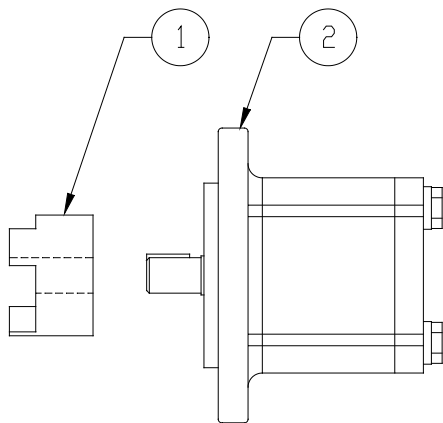

Figure 1
2. Figures 1 through 4 included in these instructions show the assembly of all the parts that comprise the pump installation to the engine block. Each item number on the following parts list can be matched with the item numbers shown on these figures. If any parts you have ordered are missing, call Reimann & Georger Corporation or your local distributor for assistance. Return any damaged parts to the place of purchase immediately. Do NOT substitute any components.
2. Push the pump coupling onto the pump shaft. Leave a 1/8-inch gap between the coupling and the pump. Tighten the set screw in the coupling against the key stock in the pump shaft. Refer to Figures 1 and 2.